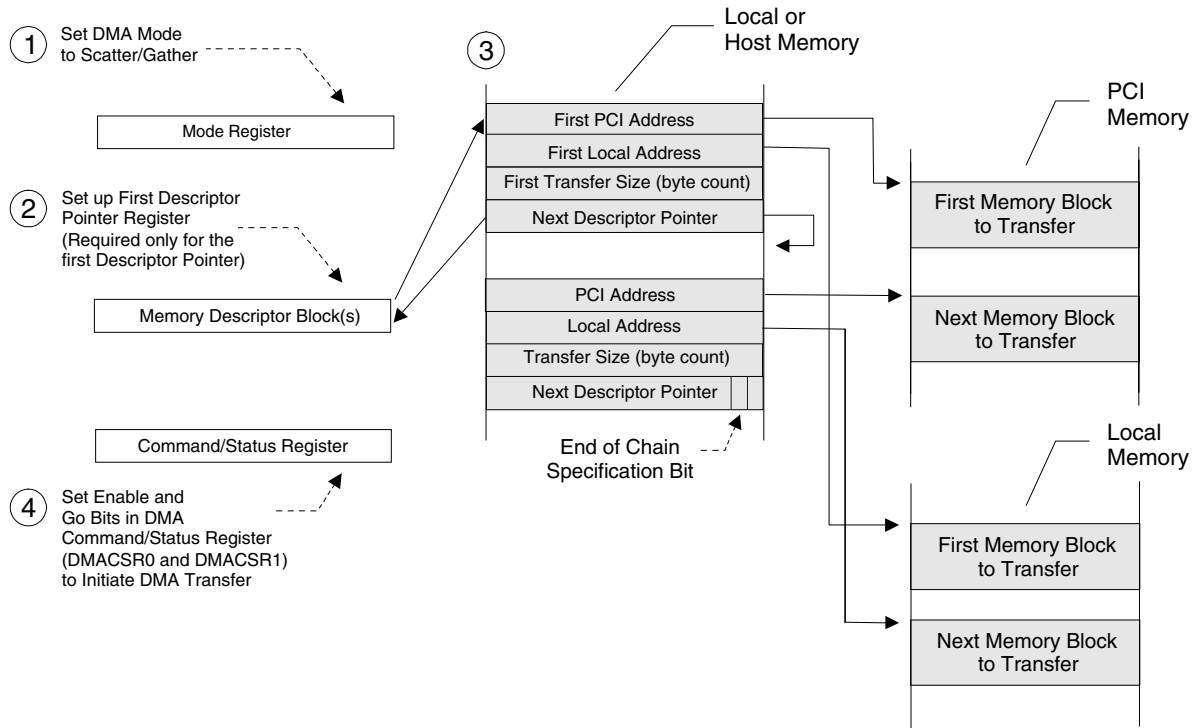

Figure 5-17. Scatter/Gather DMA Mode Descriptor Initialization [PCI SAC/DAC PCI Address (DMADAC0 and/or DMADAC1) Register Dependent]
- DMADAC0 and/or DMADAC1 contain(s) a non-zero value. DMAMODE0[18] and/or DMAMODE1[18] is set to 0. The PCI 9656 performs a Single Address Cycle (SAC) four-Lword descriptor block load from PCI memory and DMA transfer with DAC on the PCI Bus. (Refer to Figure 5-17.)